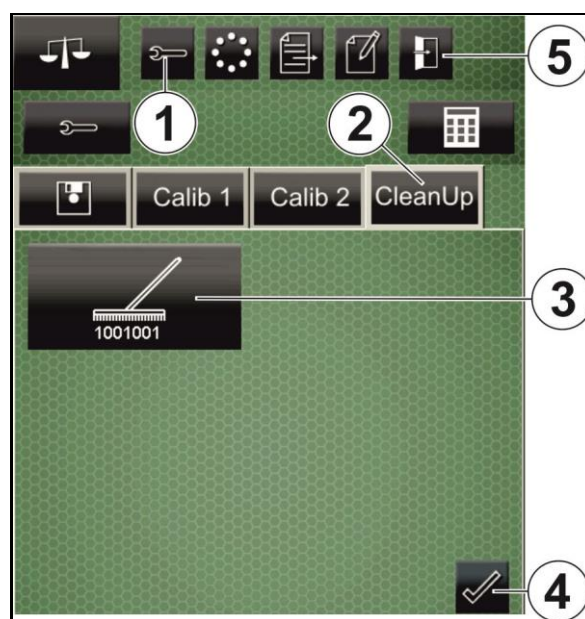

Fig. 180
6. Press the "Confirm" key (Fig. 180/4) to finish the procedure.
7. Press the "Exit menu" key (Fig. 180/5) to call up the basic configuration of the terminal.